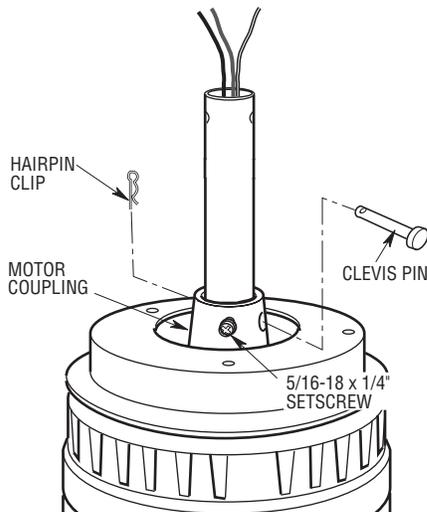

Figure 5
- 10. Separate, untwist and unkink the three 80" motor leads. Route the motor lead wires through the downrod. Align the clevis pin holes in the downrod with the holes in the motor coupling. Install the clevis pin and secure with the hairpin clip (Figure 5). The clevis pin must go through the holes in the motor coupling and the holes in the downrod. Be sure to push the straight leg of the hairpin clip through the hole near the end of the clevis pin until the curved portion of the hairpin clip snaps around
- 12. While pulling up on the downrod, securely tighten the 5/16-18 x 1/4" setscrew (supplied) in the motor coupling using the 3/16" hex wrench (supplied) (Figure 5).